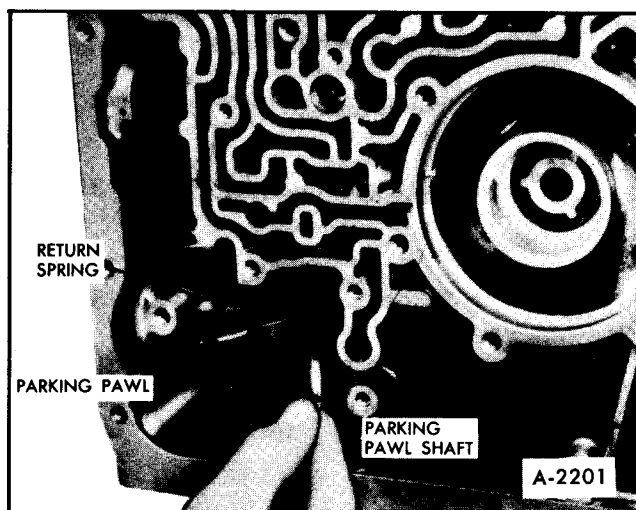

Figure 92—Installing Parking Pawl
1. Install parking pawl (tooth toward inside of case), pawl return spring and parking pawl shaft into case, Figure 92.